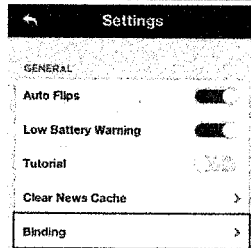
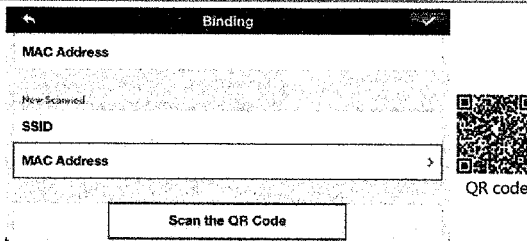
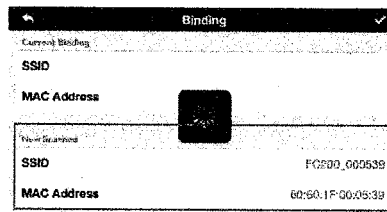
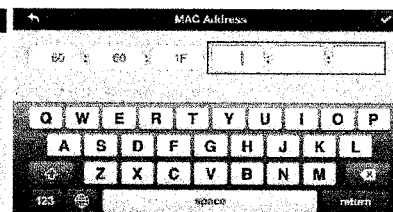

Figure 37
Figure 38
Figure 39
Figure 40
5. (Figure 37) Run the DJI VISION App then tap -> Settings -> General -> Binding. (Figure 38) Select 'Scan
QR Code² to scan the camera QR code on the product packaging. (Figure 39) Get the camera SSID (E.g. FC20Q_XXXXXX) and the MAC address. You can also skip the scan and enter the camera MAC address directly (Figure 38, Figure 40). The MAC address can be found on the camera label.